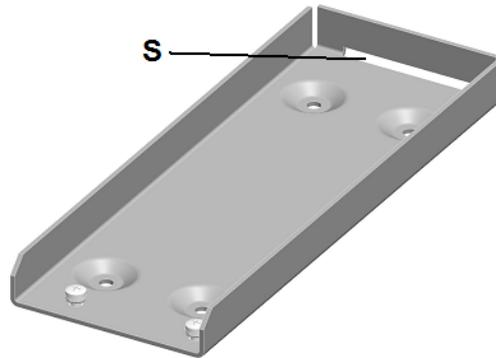
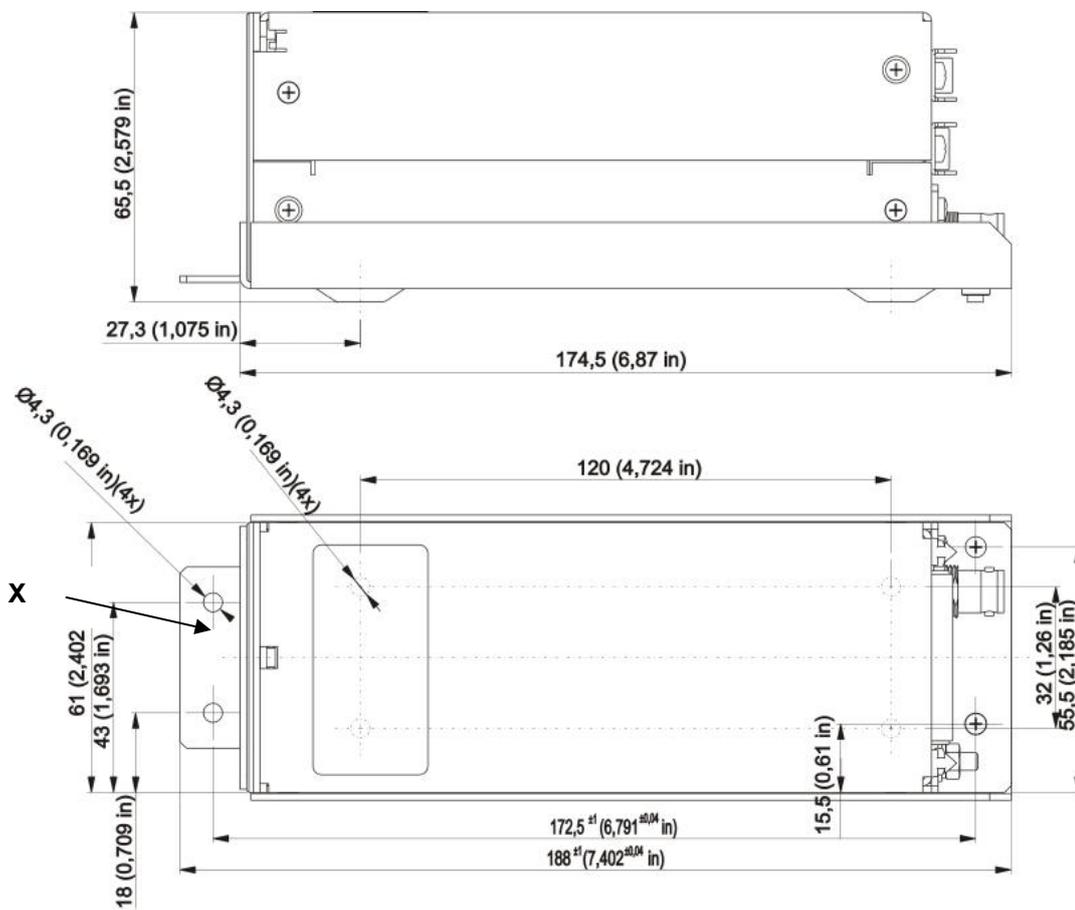

Figure 2-12: MK6201-(010) mounting kit
Figure 2-13: Dimensions RT6201 with mounting kit MK6201
- Slide flat part "X" of the RT6201 into the mounting slot **S** (see Figure 2-13: Dimensions RT6201 with mounting kit MK6201 and Figure 2-12).